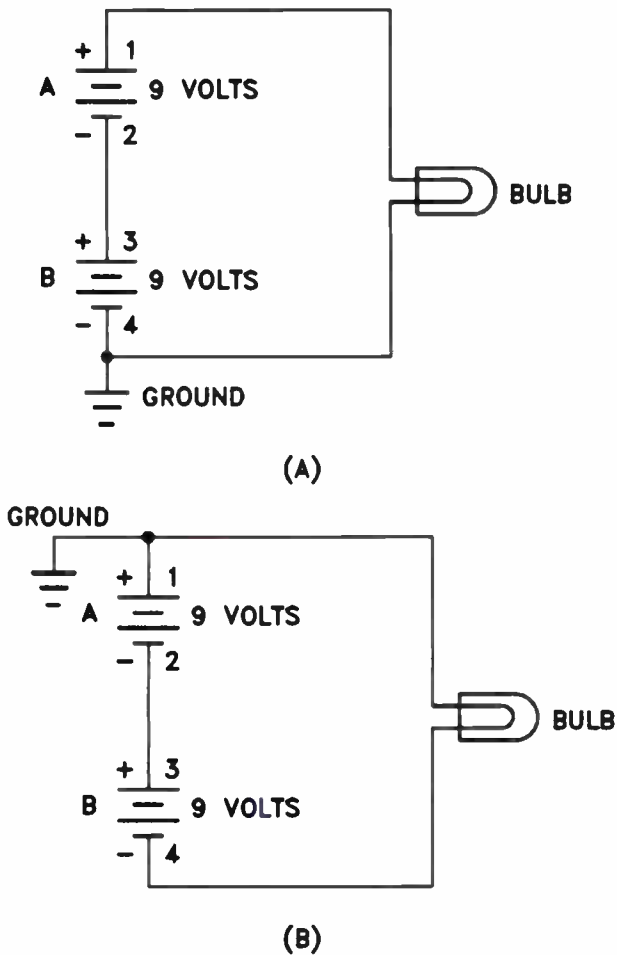
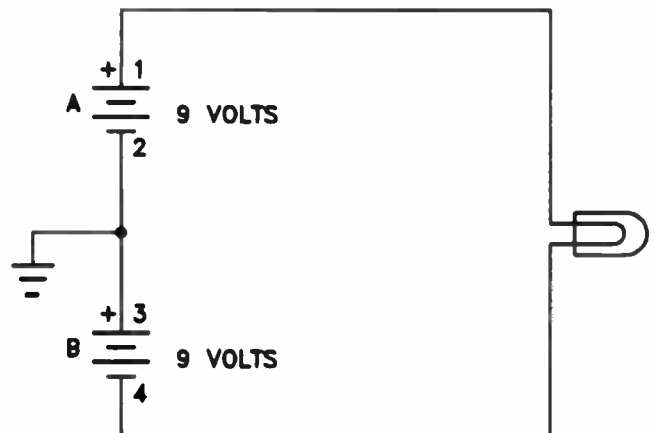

Figure 4. Simple circuits with ground connection.
Figure 5. A simple circuit with a positive voltage with respect to ground and a negative voltage with respect to ground.
In Fig.4, one battery is labeled A and the other is labeled B. The positive terminal of battery A is terminal 1, and the negative terminal is terminal 2. The positive terminal of battery B is terminal 3, and the negative terminal is terminal 4. Notice that the negative terminal of battery B in Fig.4(A) is grounded.
In Fig.4(B), the ground connection is moved so that terminal 1, the positive terminal of battery A, is ground. Now we consider terminal 1 of battery A to be at zero, or ground potential, and terminal 4, the negative terminal of battery B, is -18 V with respect to ground. Remember that the total voltage is the same in both cases.
As you've seen before, we can go one step further and ground the connections between terminals 2 and 3 of the two batteries, as shown in Fig.5. Here we have both negative and positive polarities with respect to ground. Terminal 1 of battery A is positive with respect to ground, and terminal 4 of battery B is negative with respect to ground. The total voltage applied to the bulb is still 18 V because the two batteries are connected in series. The same current flows through the bulb in the two examples given in Fig.4 and the circuit shown in Fig.5. In your study of electronics, you will run into a lot of equipment where voltages may be either negative or positive with respect to ground.
- 1 In the circuit shown in Fig.4(B), if both batteries are 6 V, what voltage is present at terminal 4 with respect to ground?
- 2 In the circuit shown in Fig.5, if each battery is a 45 V battery, what is the voltage at terminal 1 with respect to ground? What is the voltage at terminal 4 with respect to ground?